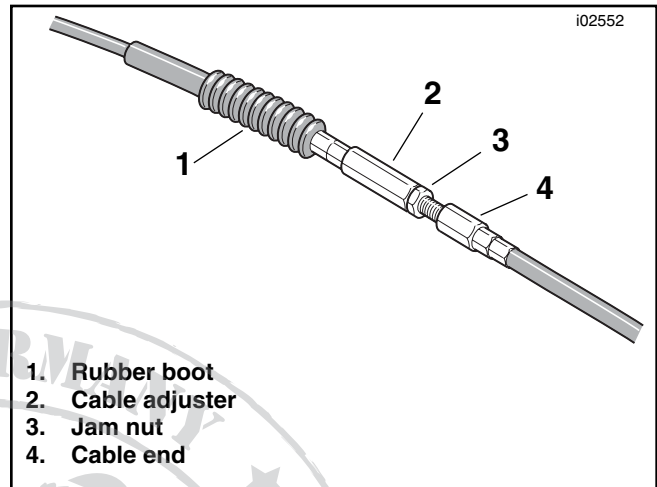

Figure 1. Clutch Cable Adjuster
2. See Figure 1. Slide rubber boot off cable adjuster. Adjuster is located approximately halfway along clutch cable by the front frame downtube.